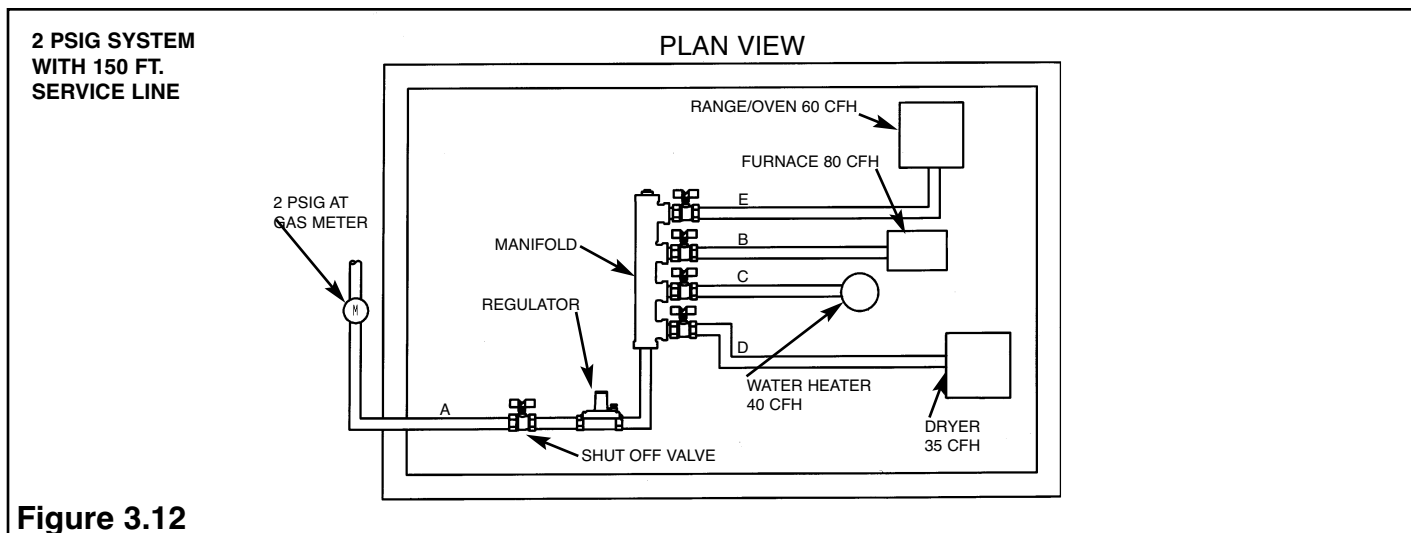

Figure 3.12
Example 5 (See Figure 3.12)
The tubing arrangement presented in Figure 3.12 is similar to Example 4 in respect to the appliance loads and their locations relative to the regulator and manifold. However, this example illustrates a 2 PSIG system adapted for multi-family application with a long (150) run from the meter to the regulator. Figure 3.5 depicts a typical unit within a multi-family building having a centralized meter set. The building could be either a low-rise, high-rise or townhouse attached structure.